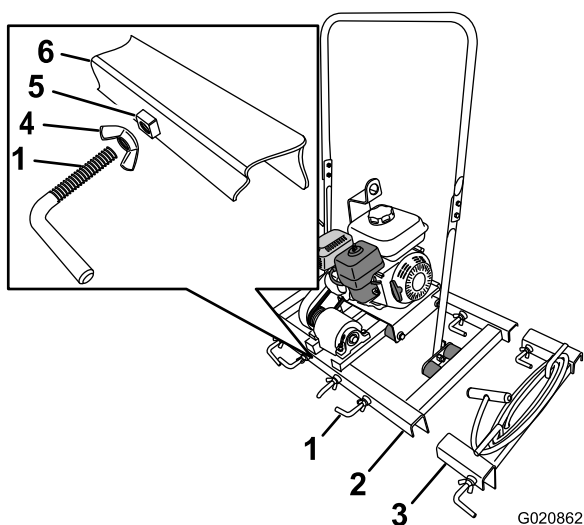

Figure 5
1. If not installed, thread the wingnuts onto the L-bolt (Figure 5).
2. Thread the L-bolts 2 or 3 rotations into the weldnuts in the U-channels of the frame and the spreaders (Figure 5).